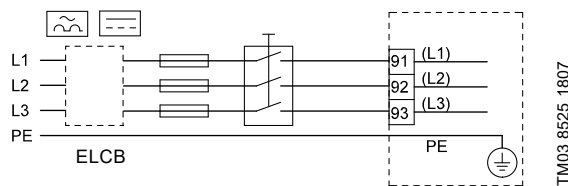

Fig. 152 Example of three-phase mains connection of CUE with main switch, backup fuses and additional protection
- Leave the screen as close to the connecting terminals as possible. See fig. 152.
A main switch can be installed before the CUE cabinet according to local regulations. See fig. 152.